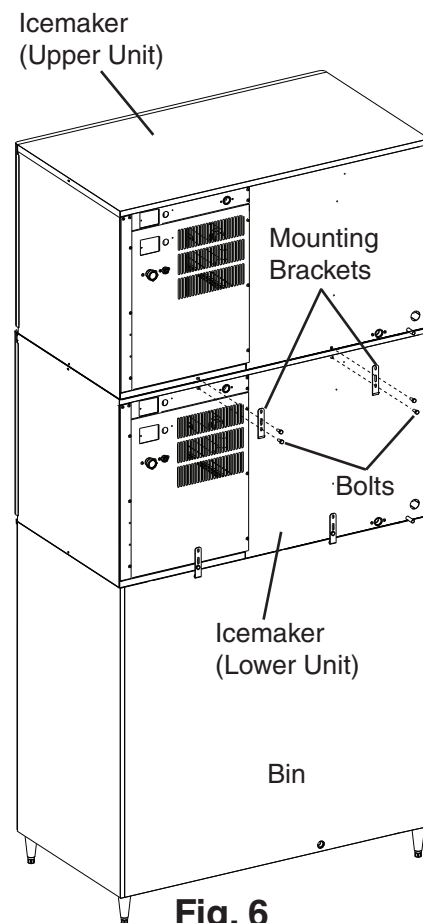

Fig. 6
See Fig. 6
- 6) Secure the upper unit to the lower unit using the 2 mounting brackets and the bolts provided. See Fig. 6.